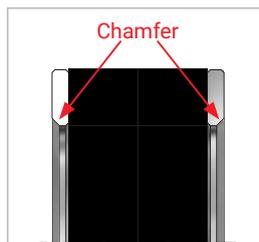

Figure 8
**Attention:** Observe the chamfers provided on the back-up washers. The back-up washers must be installed so that the chamfers face away from the front seal(s) (*Figure 8*).